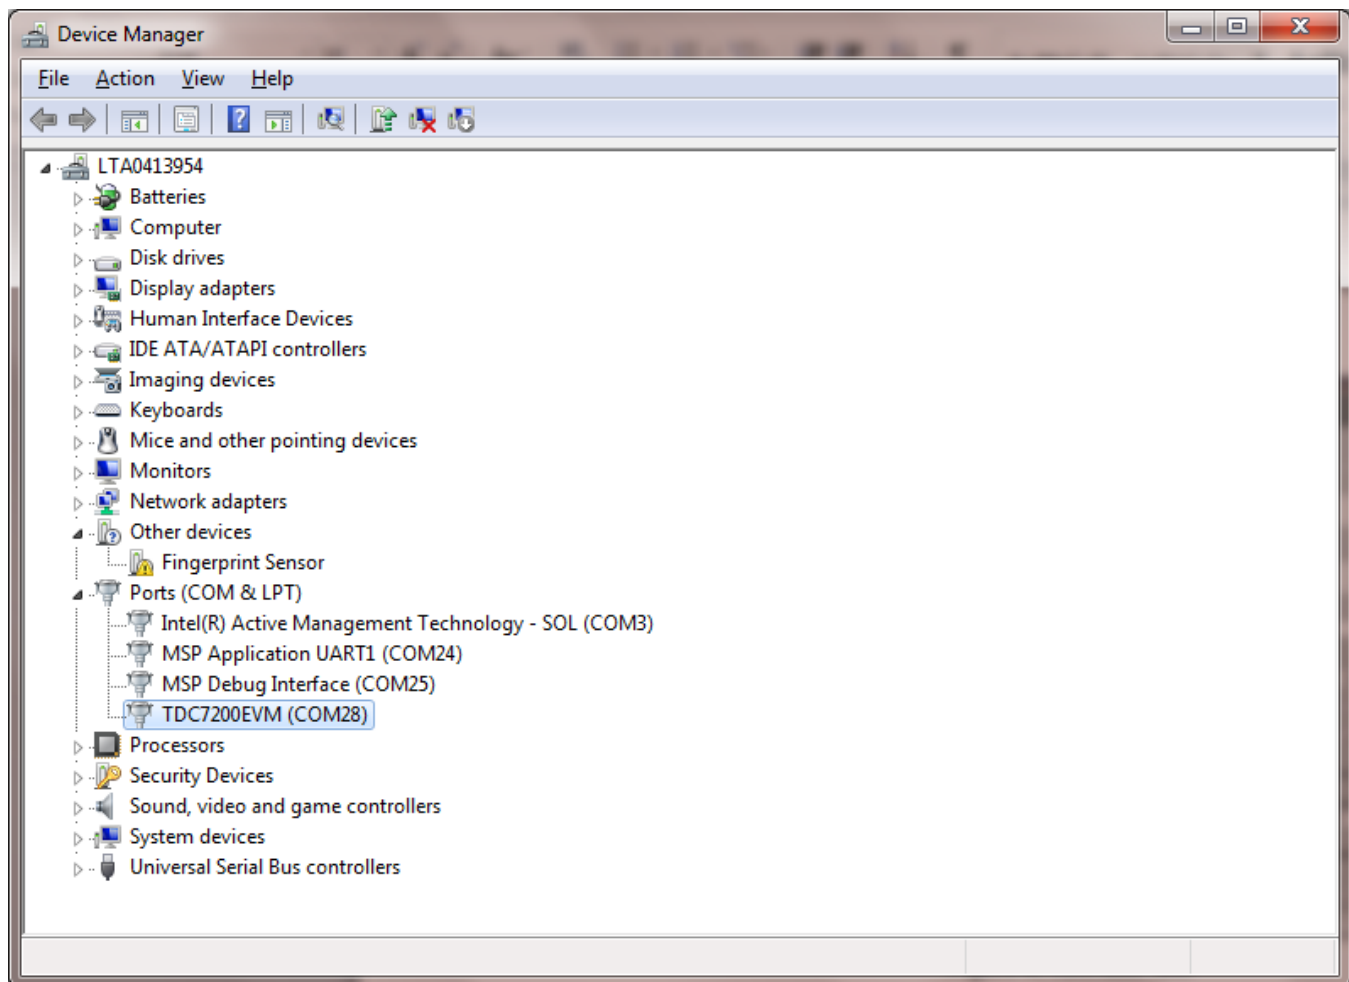

Figure 3. Device Manager
5. You should be able to see the "**TDC7200EVM (COMx)**" as shown in Figure 3